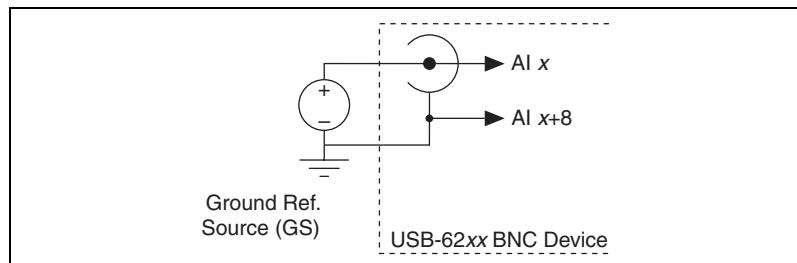

Figure A-49. Single-Ended Channels
- **Single-Ended Mode**—For each BNC connector that you use for two single-ended channels, set the source type switch to the GS position. This setting disconnects the built-in ground reference resistor from the negative terminal of the BNC connector, allowing the connector to be used as a single-ended channel, as shown in Figure A-49.